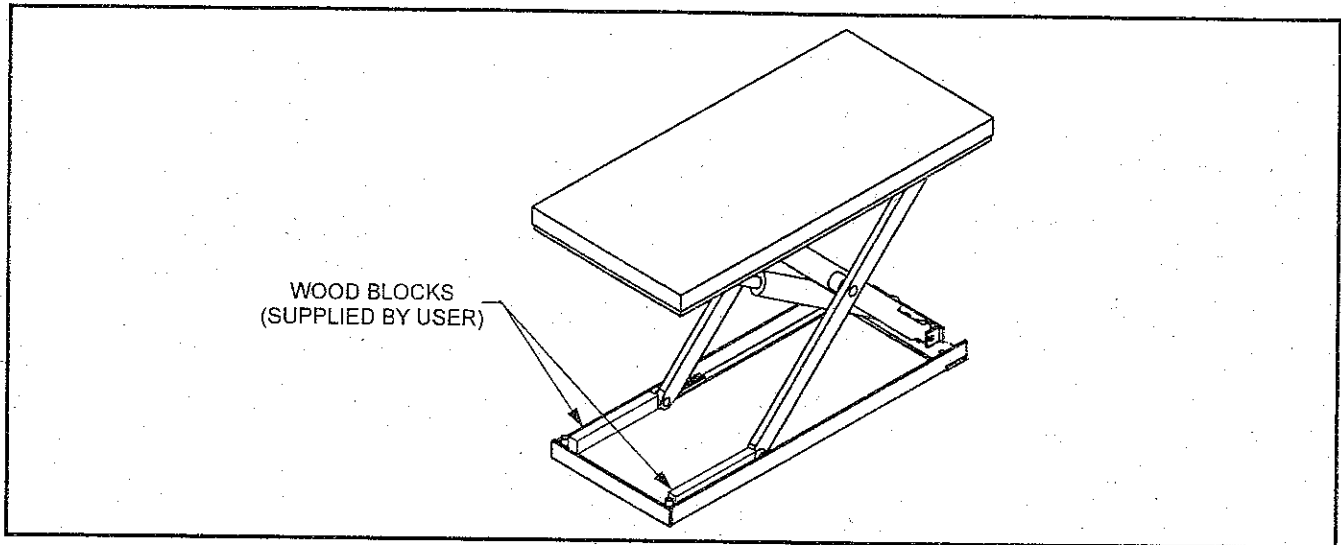

Figure 2 - Blocking and Hole location Specifications
3. Position a block of wood of the proper size in front of each scissor roller in the base frame as shown in Figure 2. Both scissor rollers must be blocked. Refer to Chart 2 for the proper block size.